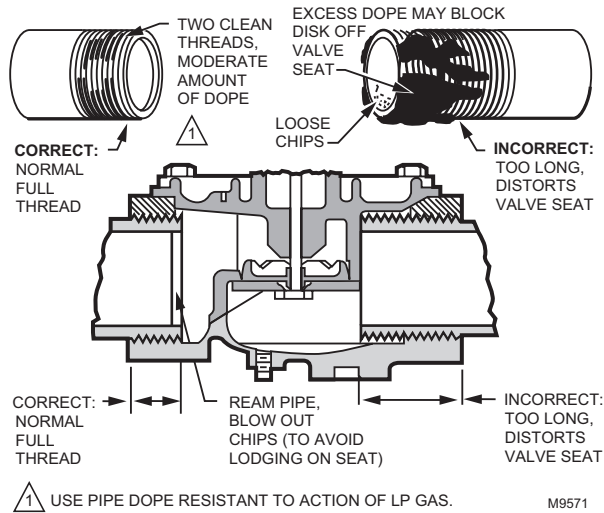
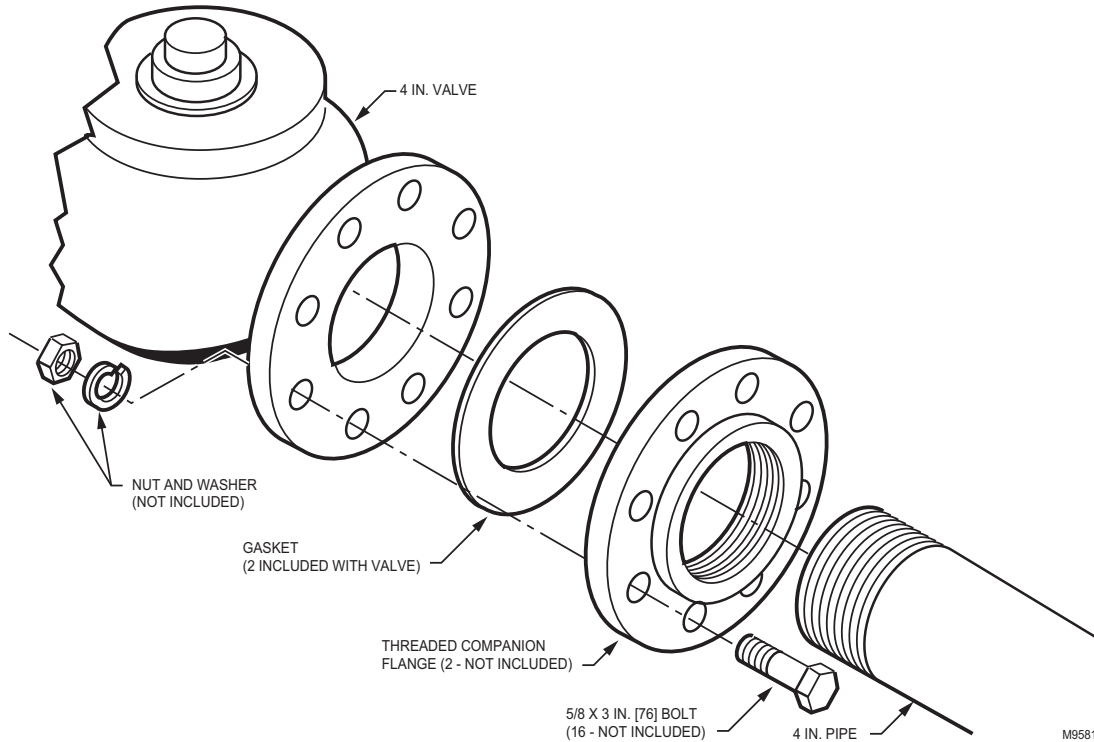

Fig. 4. Preparing the pipes.
Fig. 6. Installing a 4 in. V5055 Valve.
### Mounting (Figs. 4 through 6)
2. Do not thread pipe too far (Fig. 4). Valve distortion or malfunction may result from excess pipe in the valve.
8. Use two threaded companion flanges, two gaskets (included with valve), and 16 bolts (with washers and nuts) for mounting a 4 in.-V5055 Valve. Mount a threaded flange and gasket on each end of the valve as shown in Fig. 6. Then screw the pipes into the threaded flanges. Apply dope sparingly, and use wrenches and vises properly as shown in Fig. 4 and 5.